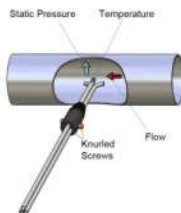

Fig. 47: Measuring the ventilation loss
19. Fix the S-tube with a cone, open it as shown in Fig. 47: Measuring the ventilation loss and direct the sensors as shown in the figure.